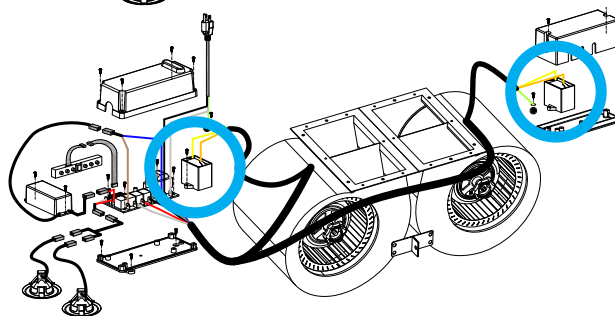

Figure 2
NOTE: Capacitors provide power to the range hood motor. If you have a unit with dual motors, there will be two capacitors (circled in blue). *Figure 2*
4. Remove the two screws securing the transformer. *Figure 2*